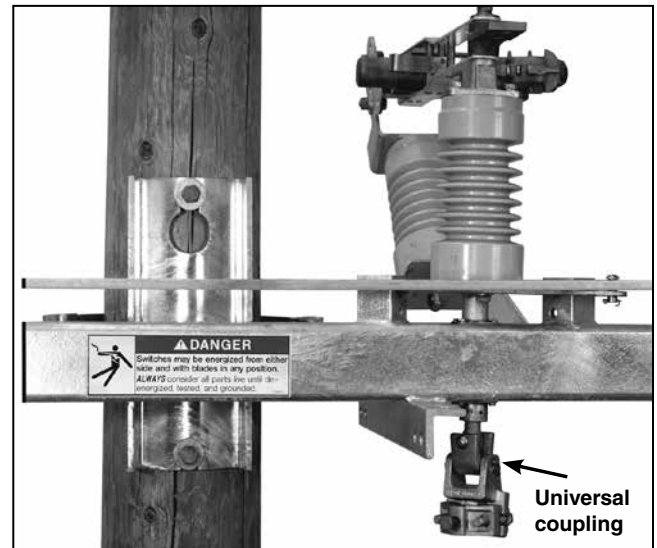

Figure 14. Attaching the universal coupling to switch the drive shaft.
STEP 12. Attach a pipe-to-switch bearing type universal coupling to the switch drive shaft on the underside of the switch assembly. See Figure 14.